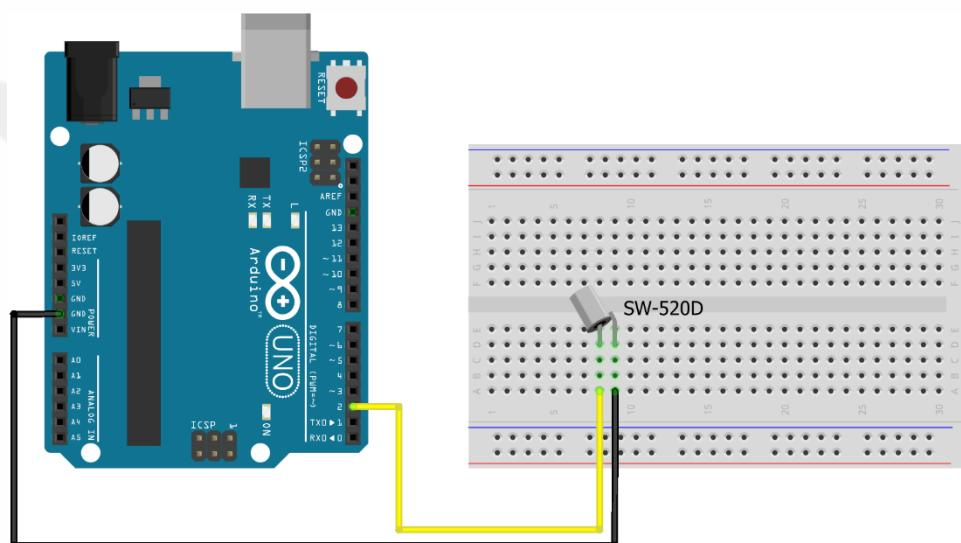

Figure 4.1 – Wiring diagram for SW-520D tilt switch with Arduino UNO R4 Minima
- Connect the SW-520D tilt switch as shown in the **Wiring Diagram (Figure 4.1)**.